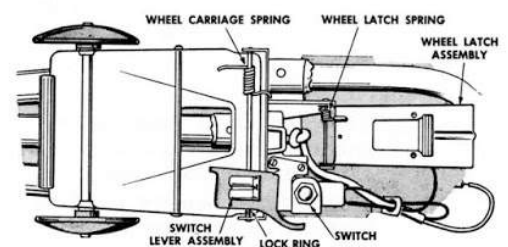

Fig. 8
- Assemble in reverse order as listed above. For Ref. *see Figures 8 and 12.*
- c. Remove lock ring, shaft and switch lever assembly. *Fig. 8.*
- c. For location of springs *see Fig. 8.*